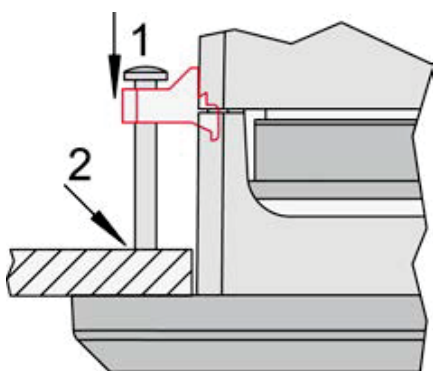

Fig. 16: Tighten clamping screws
6. → Tighten the clamping screws (Fig. 16/1) until the control unit is secured to the control panel (Fig. 16/2). Over tightening of these screws may result in the clamp inserts or the housing breaking. Do not exceed the recommended tightening torque of 0.1 Nm.